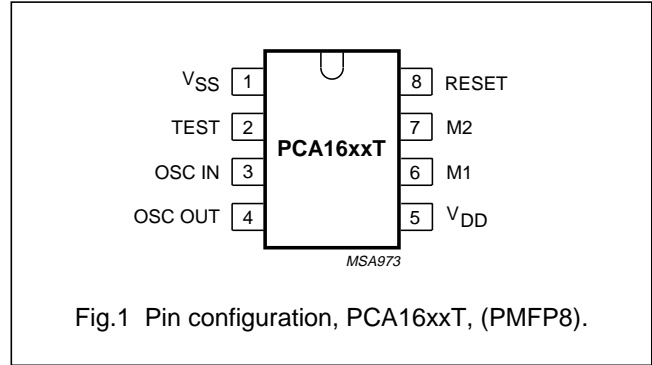

Fig.1 Pin configuration, PCA16xxT, (PMFP8).
1. Figure 1 and Chapter "Package outline" show details of standard package, available for specified devices and for large orders only.